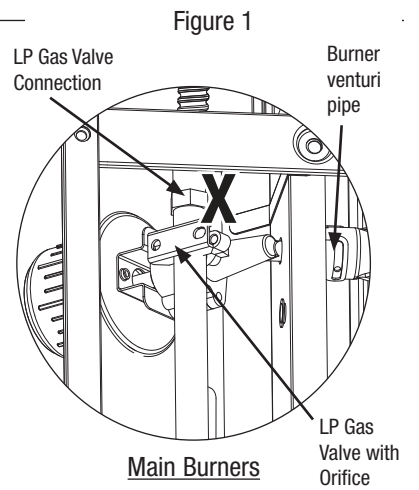

Figure 1
1. Make sure the regulator valve and hose connections are securely fastened to the burner and the tank. (Figures 1 and 2)
2. Please refer to diagram for proper installation. (Figures 1 and 2)
4. Spoon leak check solution at all "X" locations (Figures 1, 2 and 4)